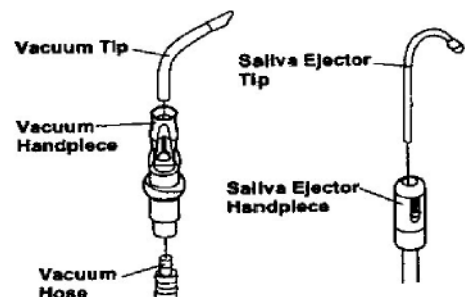
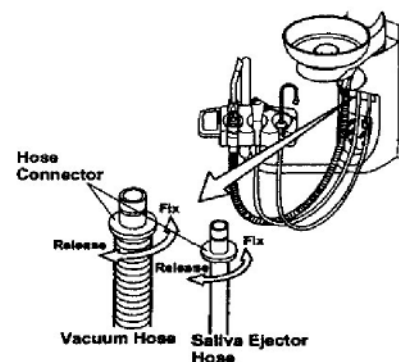

Fig.4-3 Vacuum and Saliva Ejector Handpiece
Fig.4-4 Vacuum and Saliva Ejector Hose
(3) Tuyau d'aspiration (Fig.4-3 & Fig.4-4)